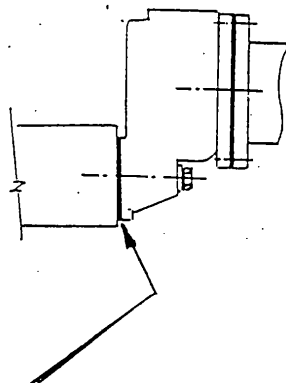

Figure 7. Gasket Between Exhaust Manifold and Engine
- (WEEKLY) 12. ( ) A steel gasket (2 pieces) is installed between the exhaust manifold and the engine head as shown in Figure 7.